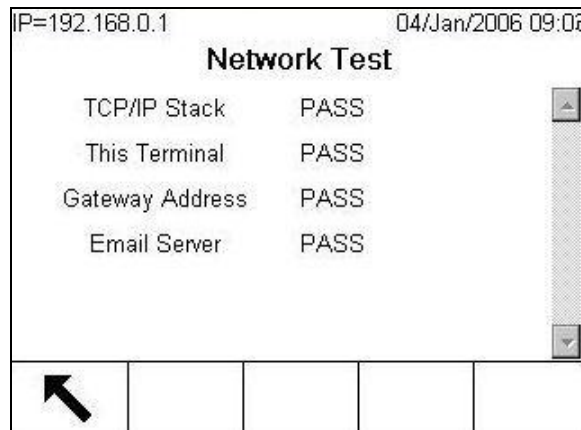

Figure 4-28: Network Test Screen
- Network Test—Enables testing of the Ethernet programming/hardware/firmware in the terminal. Figure 4-28 shows the result of running a network test.